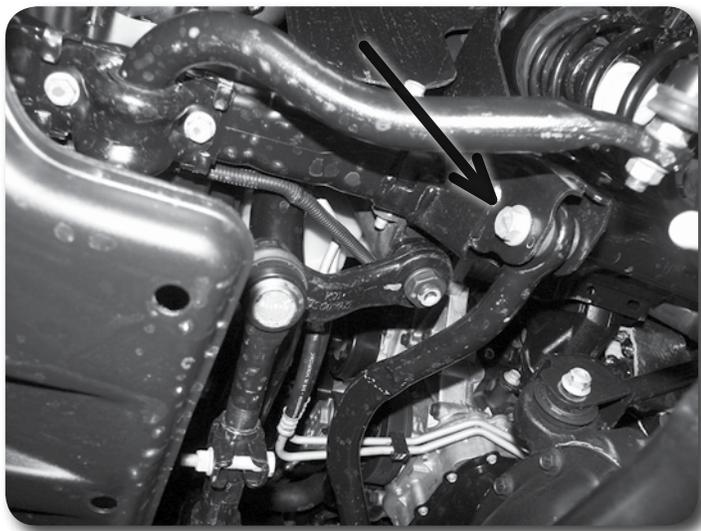

Figure 2
3. Disconnect the track bar from the frame mount and remove it from the vehicle Figure 2. Save mounting hardware.